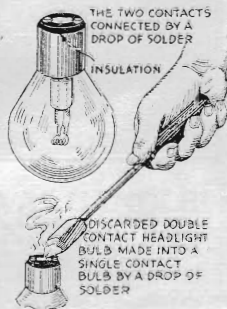

Fig. 5. Solder turns double filament bulb into fine stop light.
**DOUBLE** filament bulbs are no longer useful in the headlights when one filament burns out. However these bulbs can be converted into single contact bulbs useful for dome, stop lights and so on by a simple job of soldering. If you examine such a bulb you will find that there are two contacts at opposite sides of the insulation that protrudes from the base. Take a soldering iron as shown in Fig. 5, and flow a little solder across the insulation joining the two contacts. Be careful that no solder flows down over the insulation and makes contact with the metal shell as this would cause a short circuit.